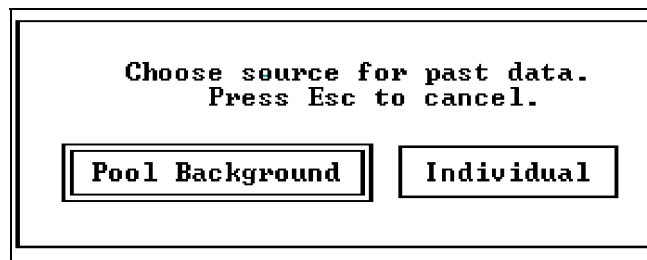

Figure 5-86. The Data Source dialog.
1. The Data Source dialog shown in Figure 5-86 appears on your screen.